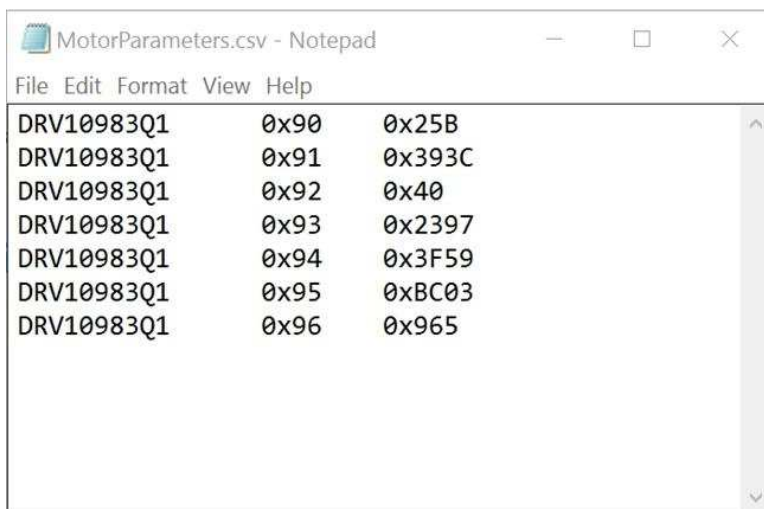

Figure 9. Example Motor Configuration File in .csv Format
3. Open the .csv file with Notepad. These registers are now implemented in the reference design CCS as shown in Figure 9.